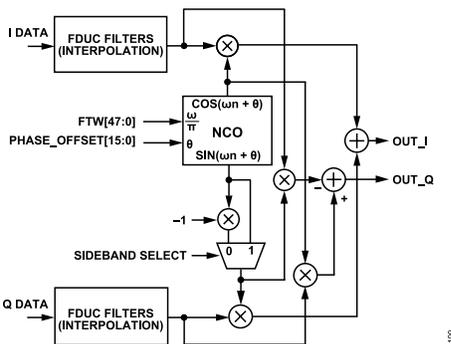

Figure 99. FNCO diagram, also showing the FDUC Filters at the input of the FNCO
The FDUC has a digital I/Q modulator, that includes a 48-bit complex Fine NCO (FNCO) for carrier generation along with summers and multipliers to result in a frequency translation and sideband cancellation, as may be seen in Figure 99. It performs the same frequency translation as a traditional analog I/Q modulator with a built-in Local Oscillator (LO) source. Being digital, it does not suffer from LO leakage and sideband suppression issues.